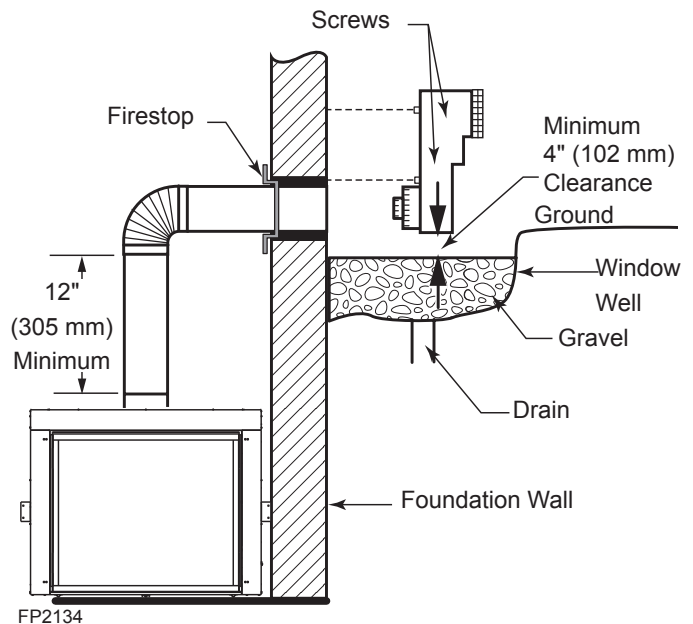

Figure 5.9 - Below Grade Installation
- Level the soil so as to maintain a 4" clearance below snorkel. Figure 5.9.
- Remove soil to a depth of approximately 16" below base of snorkel. Install drain pipe. Install window well (not supplied). Refill hole with 12" of coarse gravel leaving a clearance of approximately 4" below snorkel. Figure 5.9.